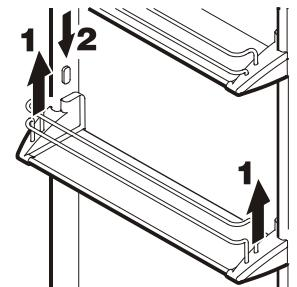

Figure 8
- Remove the door racks as shown in **Figure 8, 9**.